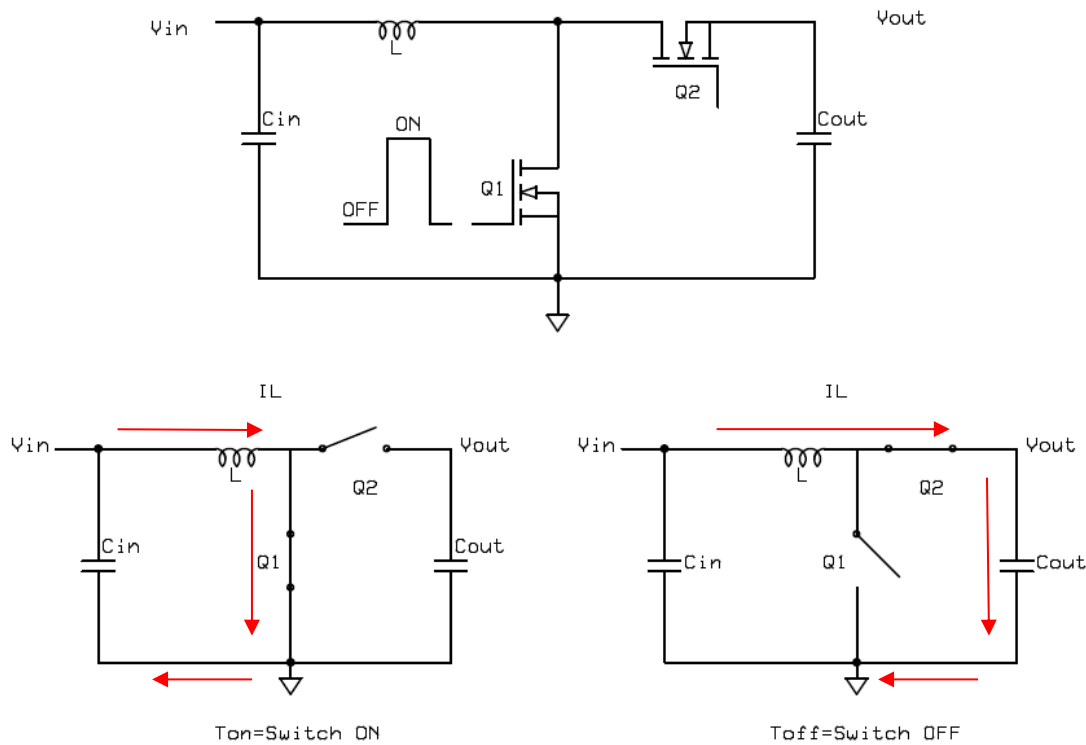

Figure 1: Synchronous Boost Regulator and Its Current Flow
Figure 1 shows the boost converter topology. The red arrows indicate the current flow in the system during the different stages of operation.
Based on this information, one might think that this device can deliver up to 6.5A of output current, but this is incorrect. The reason for this incorrect determination is that in a buck regulator, the specified output current is equal to the switch current of the device. In a boost regulator, this is not the case. For boost regulators, the listed switch current is on the input rather than the output of the regulator (see Figure 1). Therefore, when selecting a boost regulator, one must consider the conversion ratio before making a decision. Note that the listed current is typically stated as the peak inductor current and not the average current. The peak current can be approximately calculated with Equation (1):